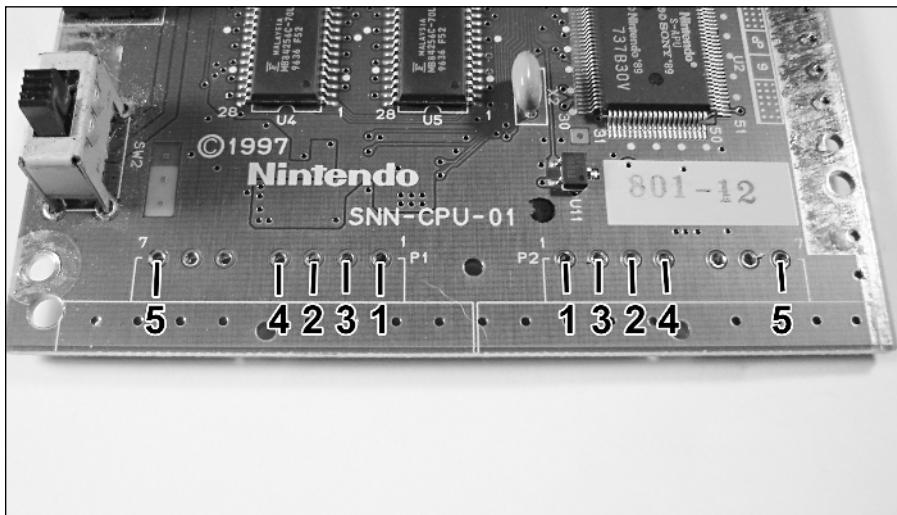

FIGURE 9-12: How the custom-made controllers hook up to the SNES board.
4. Connections 1 through 5 go to the Player 1 or Player 2 port on the SNES board, as shown in Figure 9-12.